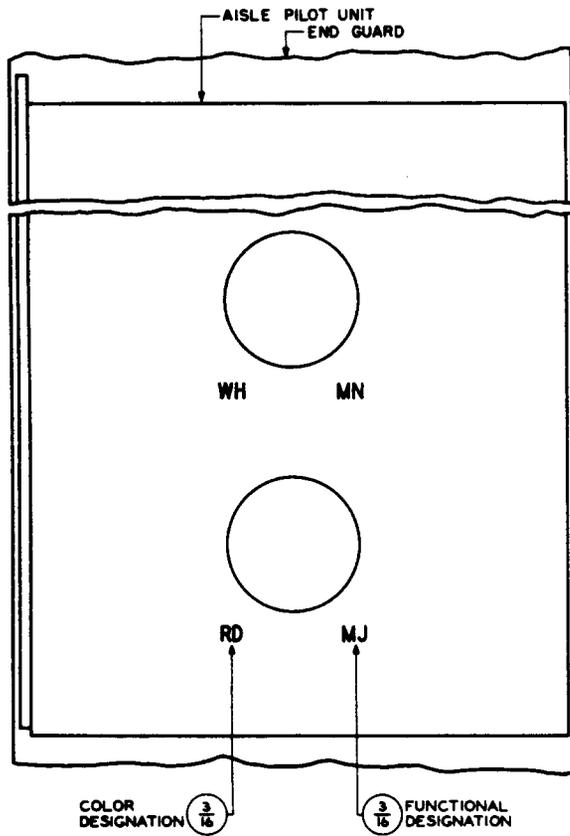

Fig. 42 - Aisle Pilot Lamps Mounted on End Guards
2.68 *Aisle pilot lamps mounted on end guards* shall have the colors and functional designations stamped as shown in Fig. 42.